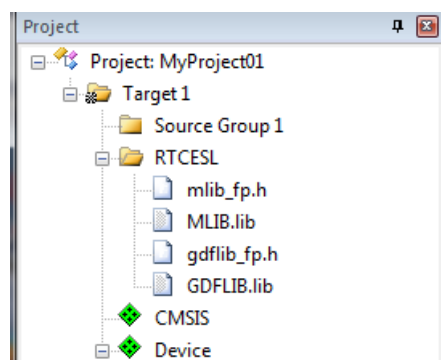

Figure 1-24. Project workspace
8. Now, all necessary files are in the project tree; see Figure 1-24. Click Close.